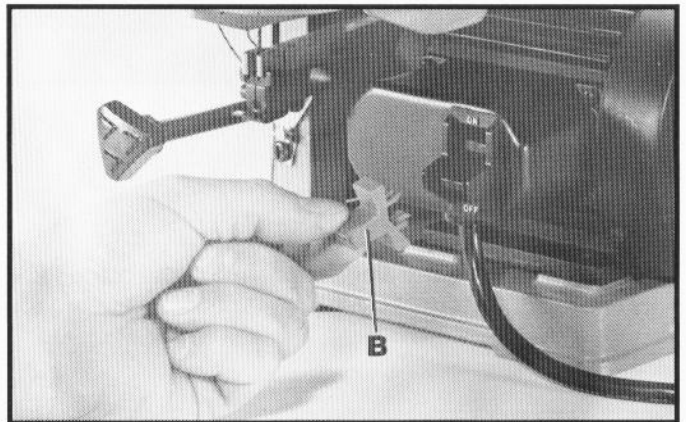

Fig. 15
We suggest that when the saw is not in use, the switch be locked in the "OFF" position. This can be done by grasping the switch toggle (B) and pulling it out of the switch, as shown in Fig. 15. With the switch toggle (B) removed the switch will not operate. However, should the switch toggle be removed while the saw is running, it can be turned "OFF" once, but cannot be restarted without inserting the switch toggle (B).